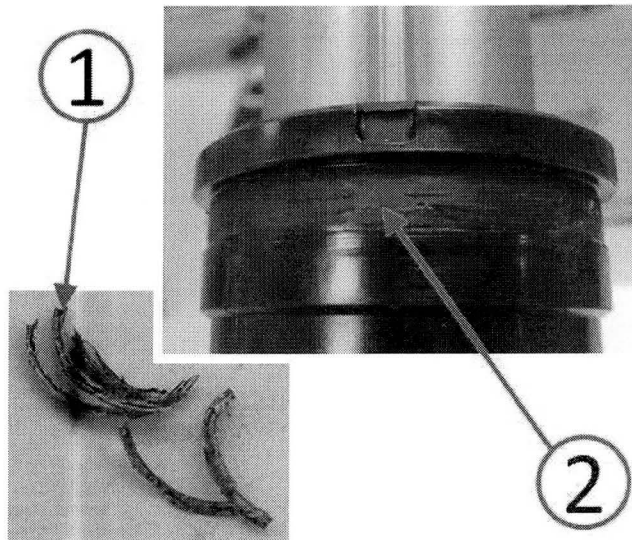

Fig. 5 Wiper Seal Removed
5. Ensure that the rubber wiper seal (1) has been completely removed from the plastic inner bearing sleeve (2) (Fig. 5).